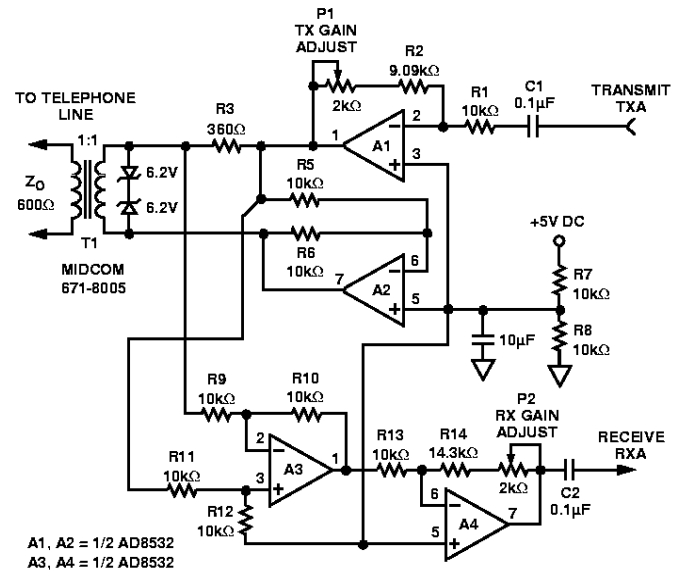

Figure 42. A Single-Supply Direct Access Arrangement for Modems
Figure 42 illustrates a +5 V only transmit/receive telephone line interface for 600 Ω transmission systems. It allows full duplex transmission of signals on a transformer coupled 600 Ω line in a differential manner. Amplifier A1 provides gain that can be adjusted to meet the modem output drive requirements. Both A1 and A2 are configured to apply the largest possible signal on a single supply to the transformer. Because of the high output current drive and low dropout voltage of the AD 8531/AD 8532/AD 8534s, the largest signal available on a single +5 V supply is approximately 4.5 V p-p into a 600 Ω transmission system. Amplifier A3 is configured as a difference amplifier for two reasons: (1) It prevents the transmit signal from interfering with the receive signal and (2) it extracts the receive signal from the transmission line for amplification by A4. A4's gain can be adjusted in the same manner as A1's to meet the modem's input signal requirements. Standard resistor values permit the use of SIP (Single In-line Package) format resistor arrays. Couple this with the AD 8531/AD 8532/AD 8534's 8-pin SO IC or TSSOP footprint and this circuit offers a compact, cost-sensitive solution.